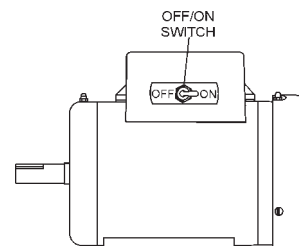

Figure 17. Electric Motor ON/OFF Switch (ON Position)
1. Set the electric motor's **ON/OFF** switch (Figure 17) to the **ON** position.